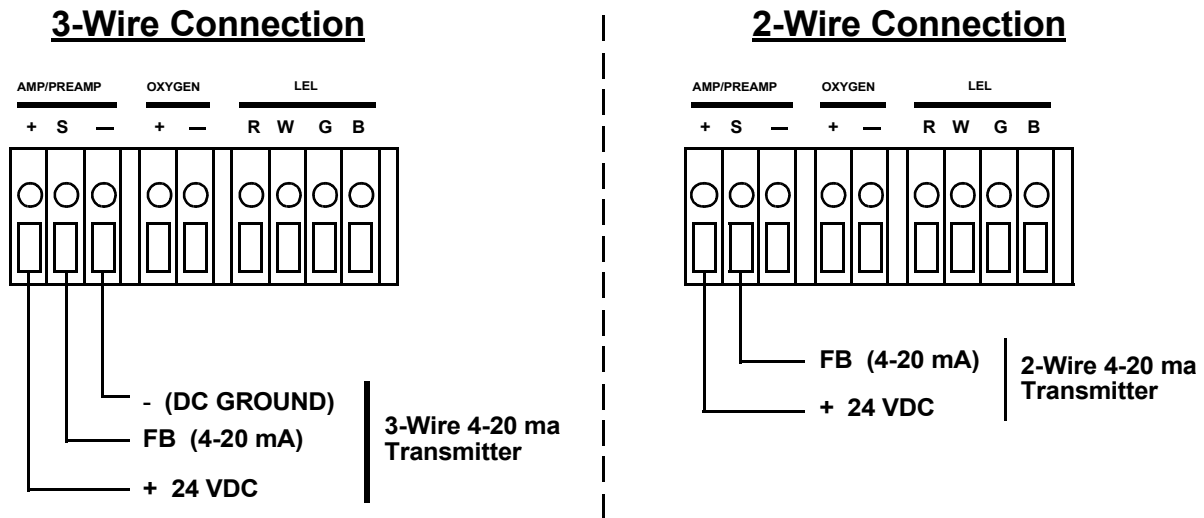

Figure 10. Generic 4 to 20 mA Transmitter Output Wiring
- Connect the wires from the transmitter to the appropriate detector/transmitter terminals. The top detector terminal strip is for channel 1 and the bottom one is for channel 2. See the transmitter instruction manual for controller terminal connections. Figure 10 below illustrates typical transmitter wiring connections.